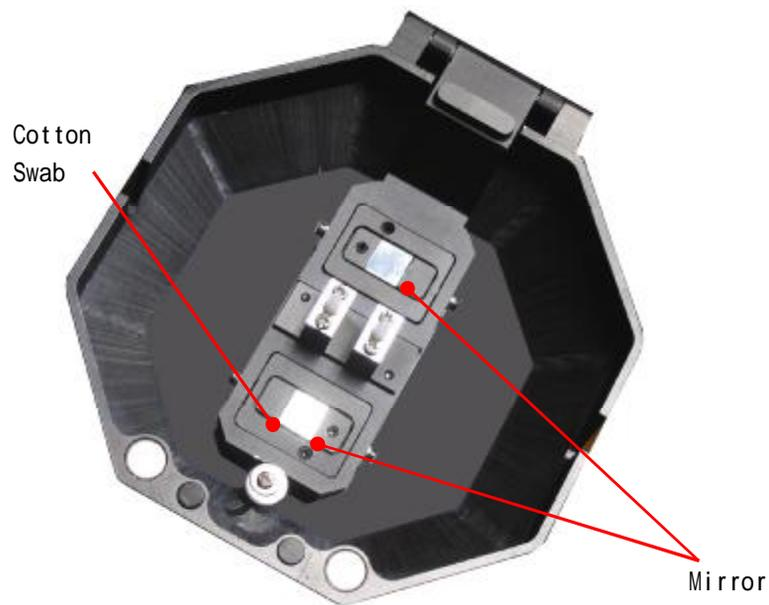

Fig.5-4 Cleaning Protector Mirrors
(1) Clean the mirror surface with an alcohol-impregnated thin cotton swab as shown in Fig.5-4. Remove excess alcohol from the mirror surface with a clean dry swab.